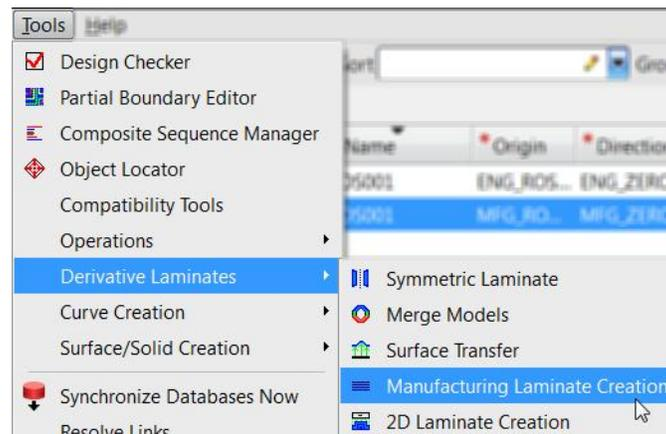

Figure 13–8
4. Specify the following parameters as shown in Figure 13–9. Close the Fibersim message that displays when selecting Engineering Laminate.